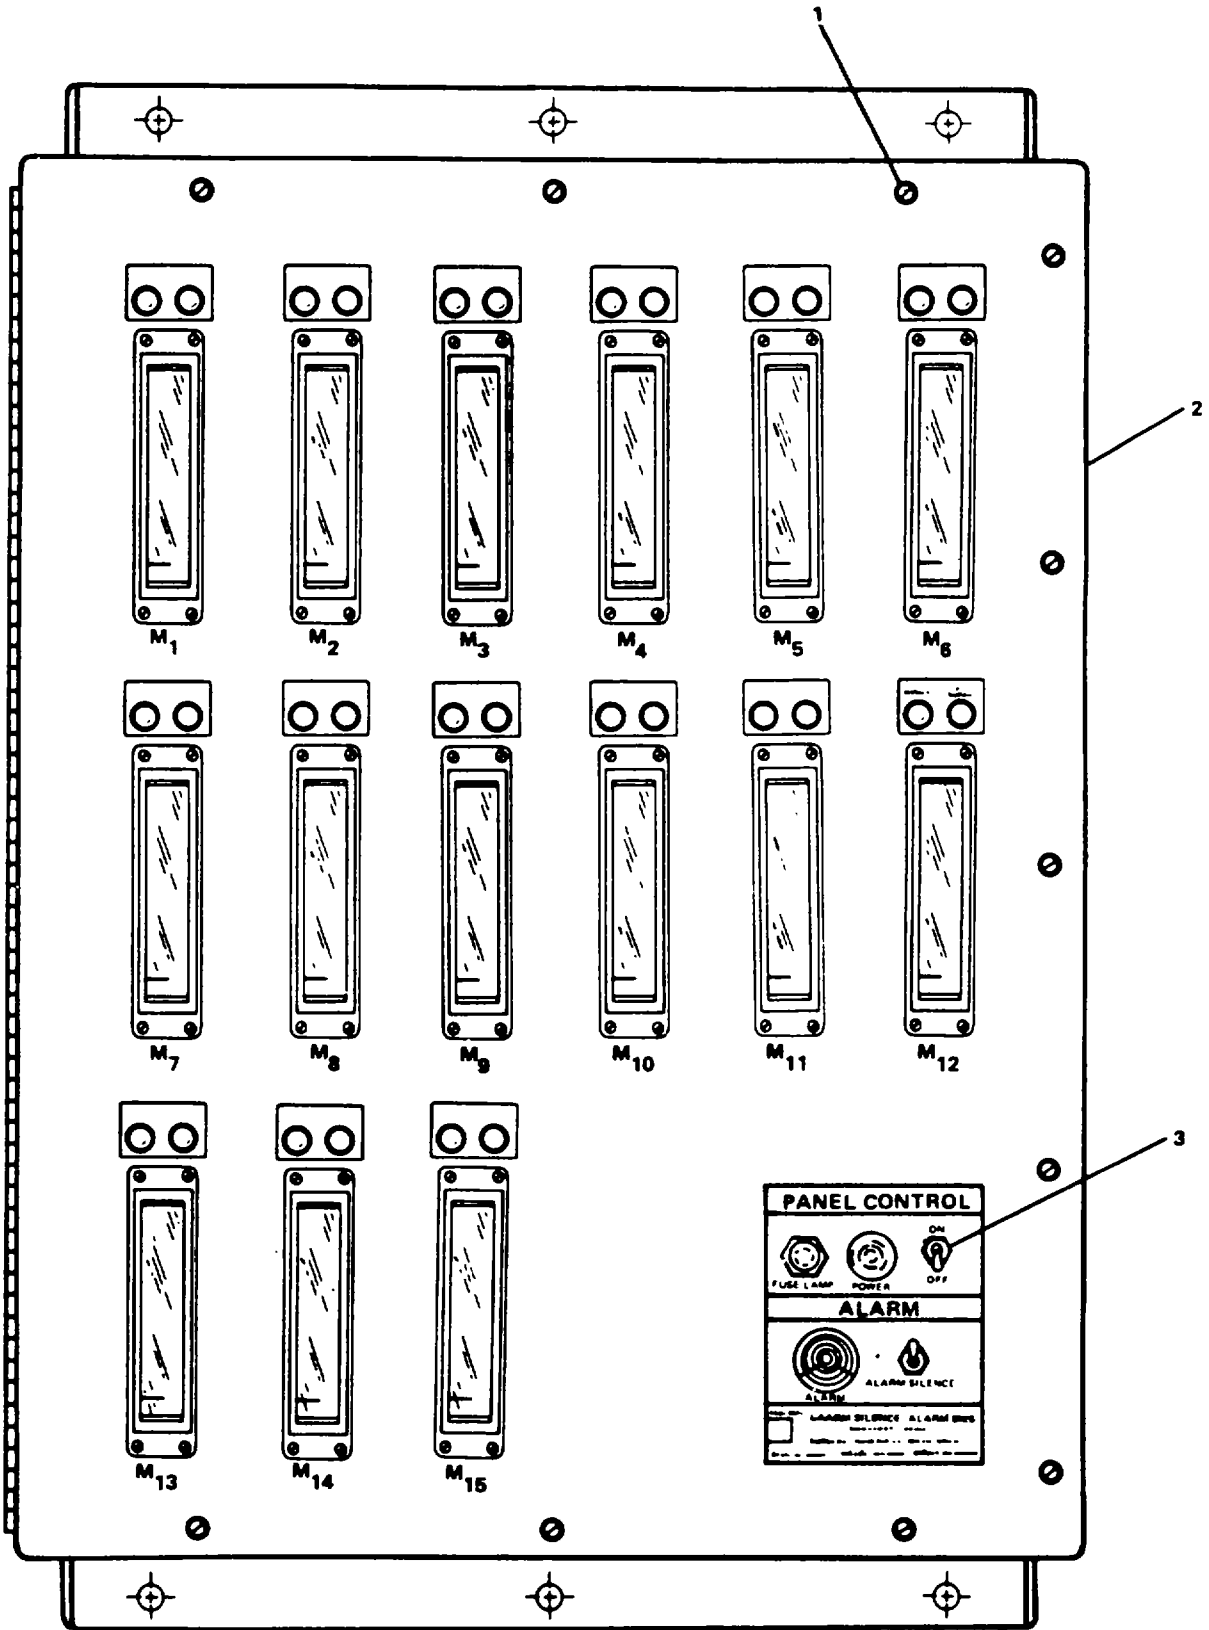
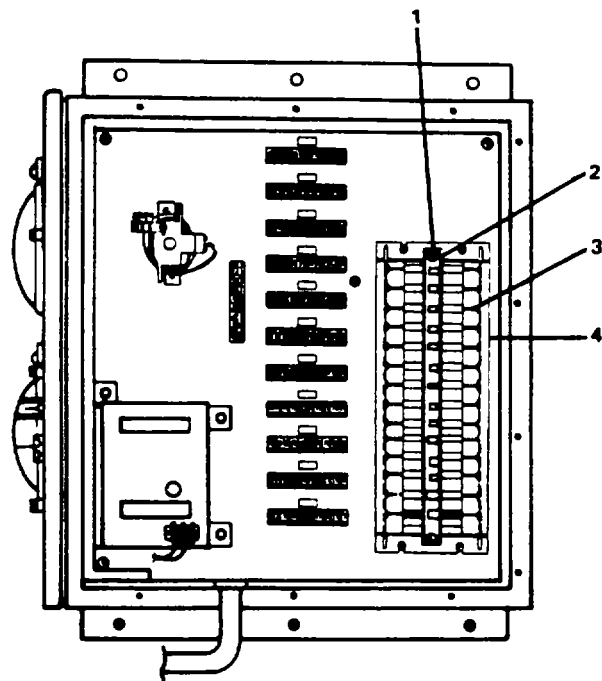
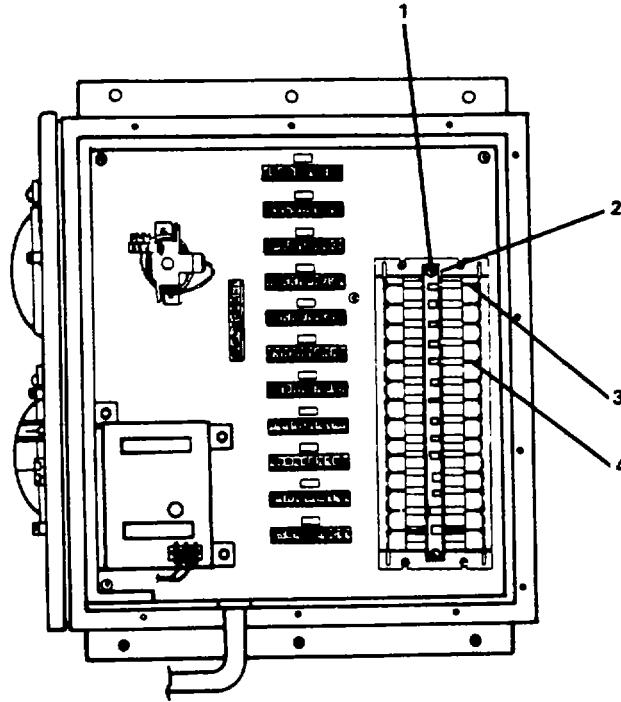

Figure 2-6. Receiver Panel. Front View.
Figure 2-7. Receiver Panel. Open.
Figure 2-9. Receiver Panel, Power Supply and Master Alarm Module.
- a. Turn power switch (3, Figure 2-6) to the OFF position.
- b. Loosen captive screws (1).
- c. Swing open front panel (2).
- d. Loosen two captive screws (1, Figure 2-7).
- e. Remove retaining bar assembly (2).
- f. Grasp control module (3) (labeled CM1 through CM11, whichever is appropriate) between thumb and forefinger. Pull straight out until separated from card rack (4).
- a. Place control module (3, Figure 2-7) in appropriate slot of card rack (4) and push inward until firmly seated.
- b. Secure retaining bar assembly (2) with captive screws (1).
- c. Close front panel (2, Figure 2-6).
- d. Secure front panel with captive screws (1).
- e. Turn power switch (3) to the ON position.
- d. Secure front panel with eleven captive screws (1).
- d. Loosen two captive screws (1, Figure 2-9).
- f. Grasp power supply/master alarm module (3) (labeled PS-1) between thumb and forefinger. Pull straight out until separated from card rack (4).
- a. Place power supply/master alarm module (3, Figure 2-9) in appropriate slot of card rack (4) and push inward until firmly seated.